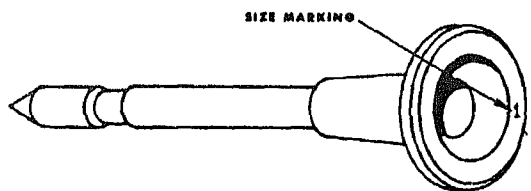

Fig. 6-1-22. Size marking location on plunger
3. Select new injector cup gasket corresponding to plunger body size. See Table 6-1-5 for cup gasket, Fig. 6-1-22 for location of size markings on plunger, and Fig. 6-1-23 for body markings.